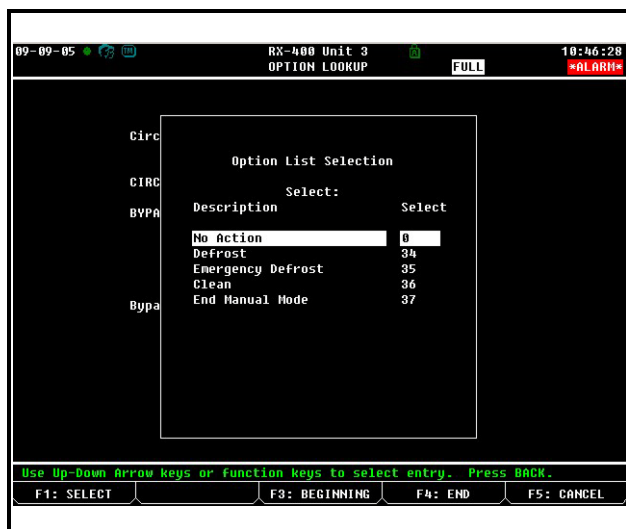

Figure 12-15 - Option List Selection Screen
- Press **F4 LOOK UP**. The Option List Selection screen (see *Figure 12-15*) will give you five choices of defrost modes.